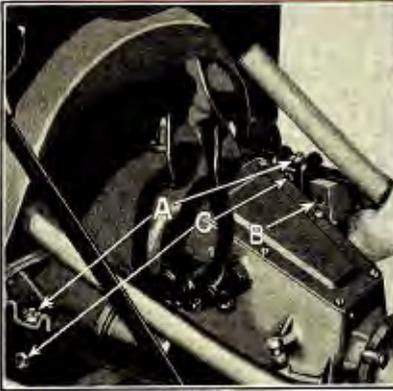
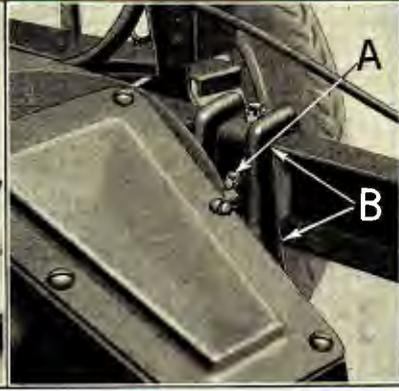

Fig. 86
Fig. 87
- 98 **Install crankcase arm bolts—top**—Insert the two crankcase arm bolts—top through frame and crankcase arms, running down nuts on ends of bolts and locking nuts with cotter keys (See “A” Fig. 86).
- 99 **Install crankcase arm blocks**—Insert the two crankcase arm blocks into channel of frame and position them behind crankcase arms, lining up the holes in the blocks with bolt holes in frame and crankcase arms (See “B” Fig. 86).
- 100 **Install crankcase arm bolts—side**—Insert crankcase arm bolts—side (See “C” Fig. 86), through frame block, and arm. Run down nuts on ends of bolts and lock with cotter keys (See “A” Fig. 87).